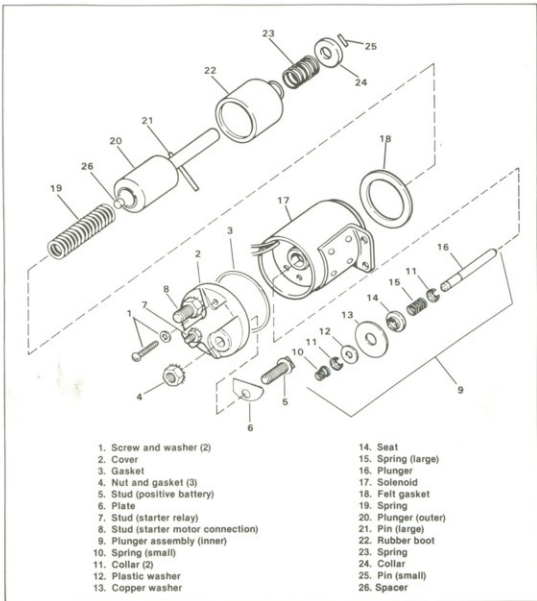

Figure 5-24. Solenoid—Exploded View
DISASSEMBLY (Figure 5-24)
CLEANING, INSPECTION AND REPAIR (Figure 5-24)
ASSEMBLY (Figure 5-24)
1. Be sure gasket (18, Figure 5-24) is in good condition and install solenoid to primary cover with spacer (5) between solenoid and cover. Tighten mounting bolts (4) to 12 ft-lbs torque.
2. Install battery positive cable (1) to LONG solenoid stud. Place lockwasher under cable end.
3. Install starter motor cable (2) to SHORT solenoid stud. Place lockwasher under cable end.
4. Install starter relay wire (3) to small solenoid stud. Place lockwasher under wire end.